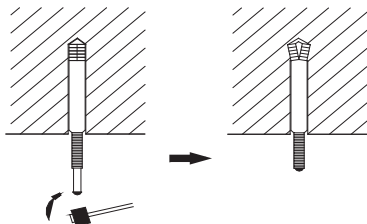

Fig. 50 – Expansion Bolt
1. Insert the M10 expansion bolt into the hole, then knock the nail into the bolt. Refer to the Outline Dimension Drawings of the Indoor Unit for the distance between holes and see Fig. 50 for the installation of the expansion bolt.